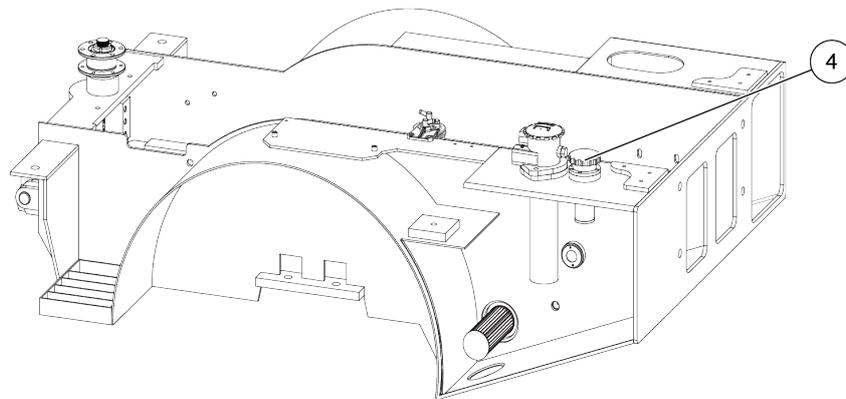
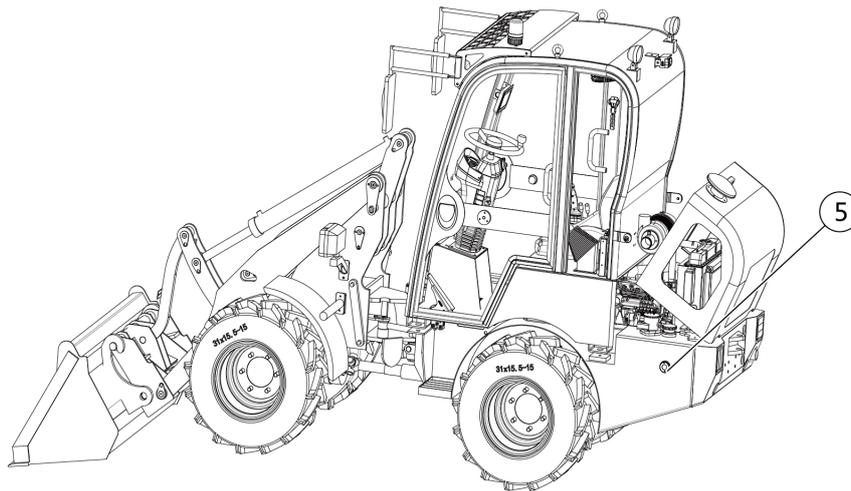

Figure 6-20 Hydraulic oil tank cap
Figure 6-21 Hydraulic oil level gauge
(2) Cover (3) Hydraulic oil filter element
Step 7: Install the cover (2), install the radiator and other obstructive devices;
Step 8: Unscrew the hydraulic oil tank cap (4), add hydraulic oil not exceed the upper limit of the level gauge (5), and then install the hydraulic oil tank cap (4), as shown in Figure 6-20 and Figure 6-21;